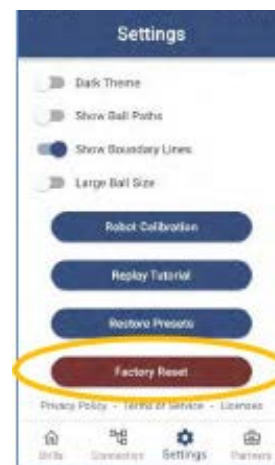

Figure 3-19
3.3.5 – Factory Reset (Figure 3-19)